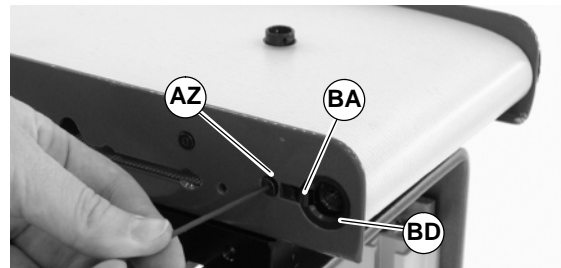

Figure 55
9. Insert retaining sleeve clip (BA of Figure 55) into slot and tighten with screw (AZ).